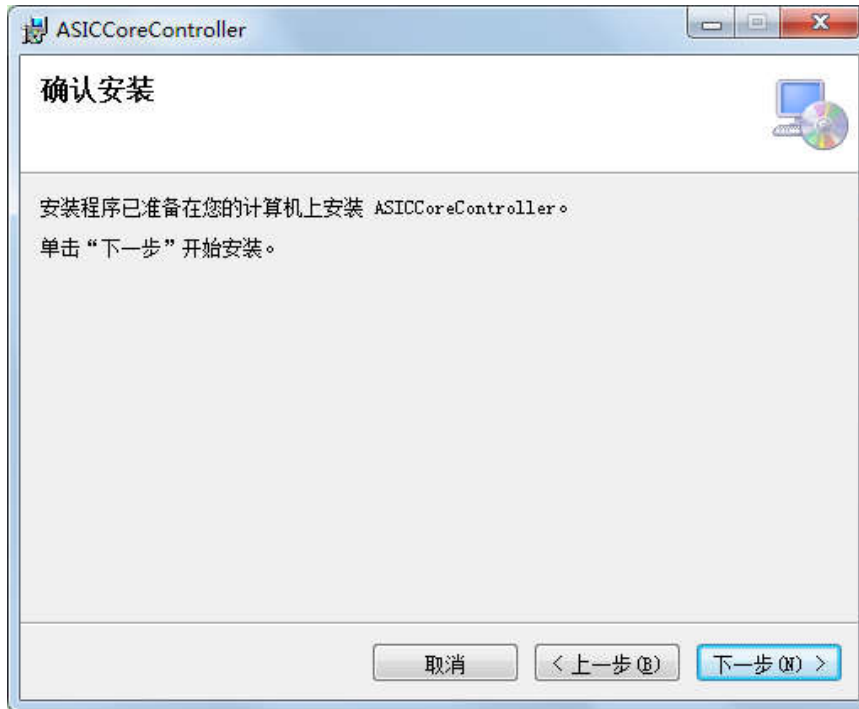

Fig. 4-3 Software installation interface 3
3. In the new pop-up window, click the button "Next" to proceed to the next step, as shown in Fig. 4-3.